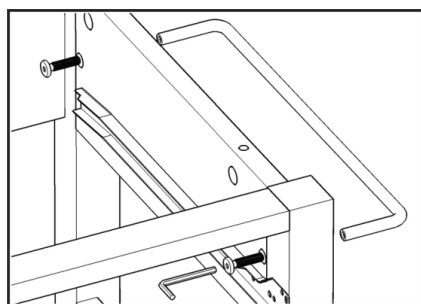

Figure 4
Attach Side Bar (J) to unit with Head Cap Bolts (short). (see Figure 4)